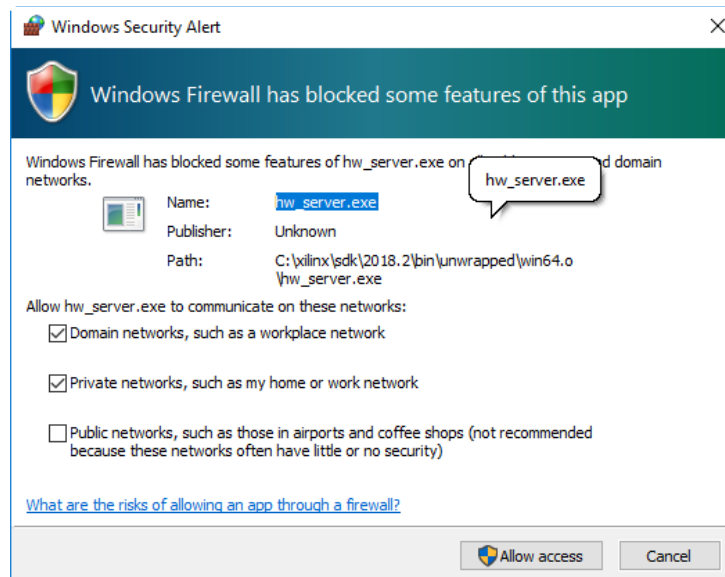

Figure 30 – JTAG Security Message
- b. If your MiniZed boot configuration switch is similar to the above, remove the protective film and slide switch 1 (indicated by the silkscreen DASH above the F) to be toggled to FLASH Booting (F).
- d. Reboot your MiniZed using the Reset button (see Figure 30 – Reset Button)